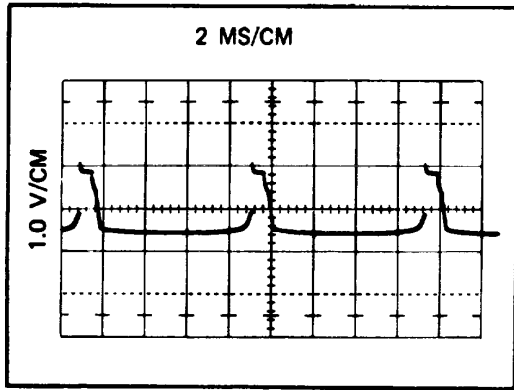

Figure 4-16. PRE-REGULATOR Q1, WAVEFORM ON STDBY/RESET
- e. Set the POWER switch to STDBY/RESET. The oscilloscope waveform should appear as shown in Figure 4-16.